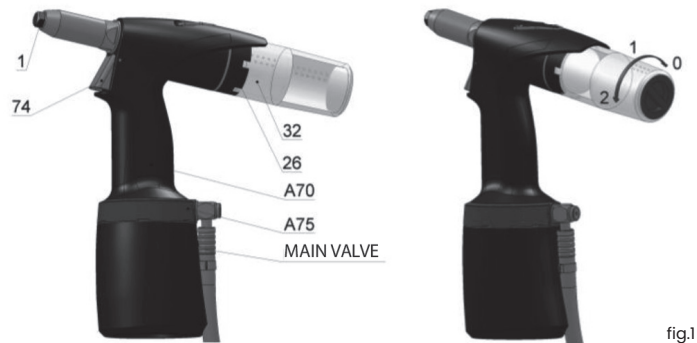

fig.1
Check the opening of the hand slide valve [main valve fig.1] on the tool. All devices in our AS series can be quickly disconnected from the compressed air to check or temporarily switch off the suction device.
The manufacturer equipped the tool with a nosepiece /fig.1 – pos.1/ for a rivet \varnothing 6.4. Riveting with blind rivets of different diameters [further on referred to as BR] requires use of appropriate nosepieces that are stored in the mandrel collector or in the carton box.
Replacement of nosepieces: Connect the tool to the source of compressed air, depress the trigger and screw out the nosepiece /fig.1 – pos.1/ with a spanner no. 12. Screw on a new nosepiece /acc. to the chart/ and tighten it. Now you can release the trigger of the tool.
The tool is equipped with revolving air supply /fig.1 – Pos.A75/ which enables manipulation with air supply before as well as during tool operation, air hose does not obstruct riveting in any position.
The tool is equipped with multifunction trigger /fig.1 – pos.74/ which enables following:
The tool is equipped with a multifunctional mandrel collector /fig.1 – pos.32/ which has the following positions:
Put and push the mandrel collector /fig.1 – pos. 32/ into the ring relief /fig.1 – pos.26/ end-to-end, thus you depress the arrestment element, and turn to position 1 or 2. The mandrel collector shall thus be in place. The suction shall initiate in position 2. Relative position of the mandrel collector with air outlets /fig.1 – pos.32/ and the ring relief /fig.1 – pos.26/ ensures that the outlet air pressure goes out in a suitable direction [e.g. offward the operator of the tool].
Turn the mandrel collector /fig.1 – pos.32/ end-to-end to position 0 and pull it out of the ring relief fig.1 – pos.26/. The suction shall thus switch off.
Suction switches off by turning and removing the mandrel collector /fig.1 – pos.32/. Insert BR into the riveting tool through the nosepiece hole. Depress the trigger to move the jaws offward the BR head. The movement ends when reaching max. stroke, correct BR with respect for material gauge shall tear off the shank [riveting] for one stroke of the tool. Releasing the trigger shall return the jaws to initial position and released torn-off shank can be removed from the nosepiece by tilting the tool. /fig.1 – pos.1/.
Mounting and turning the mandrel collector /fig.1 – pos.32/ to position 1 shall arrest it. Insert BR into the riveting tool through the nosepiece hole. Depress the trigger to move the jaws offward the BR head. The movement ends when reaching max. stroke, correct BR with respect for material gauge shall tear off the shank [riveting] for one stroke of the tool. Releasing the trigger shall return the jaws to initial position and the released torn-off shank can be transported into the mandrel collector by tilting the tool.
Suction switches on by turning the mandrel collector /fig.1 - pos.32/ to position 2. In this position the suction holds BR in the nosepiece /fig.1 - pos.1/ which enables riveting in any position without danger of BR falling out of the nosepiece of the tool. Depressing the trigger shall perform riveting. Releasing the trigger shall transport the shank into the mandrel collector.